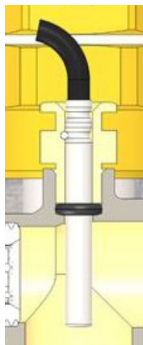

Fig. 45: Releasing the temperature sensor
3. ➤ To remove the temperature sensor (Fig. 45), release the M10 bolt.